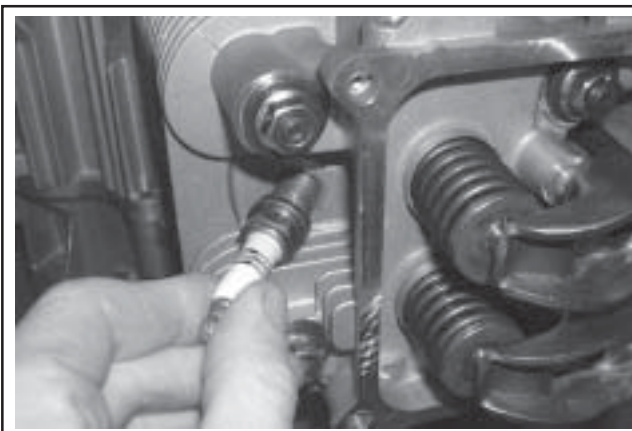

Figure 11-44. Installing Spark Plugs.
3. Install new plugs and torque to **24.4-29.8 N·m (18-22 ft. lb.)**. See Figure 11-44.